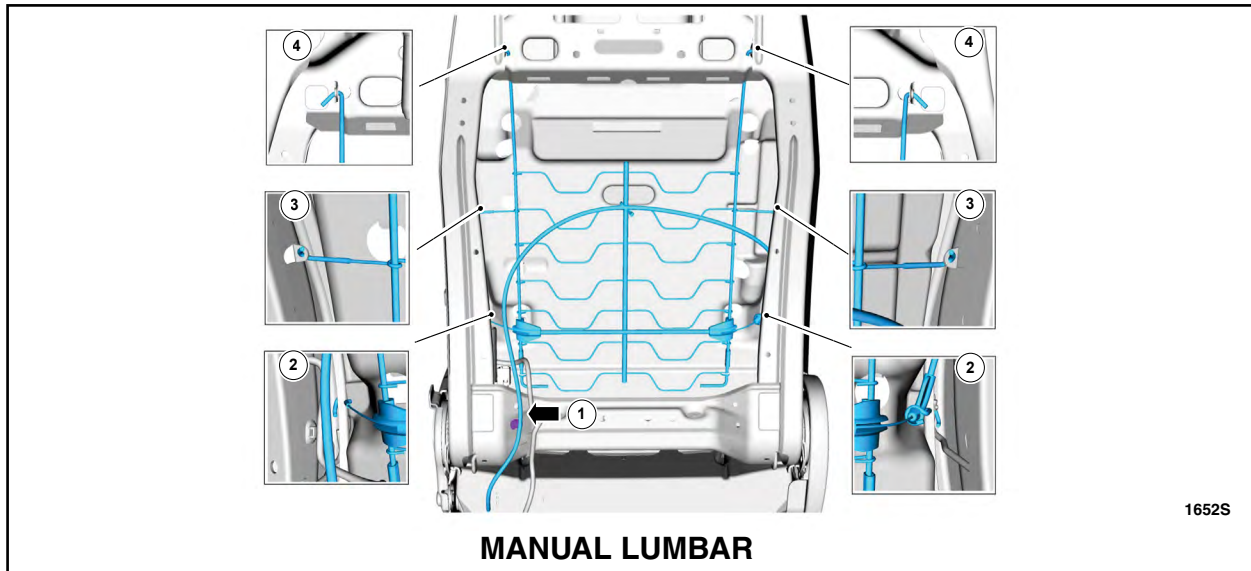

FIGURE 21
13. Remove the lumbar assembly. See Figures 21 and 22.